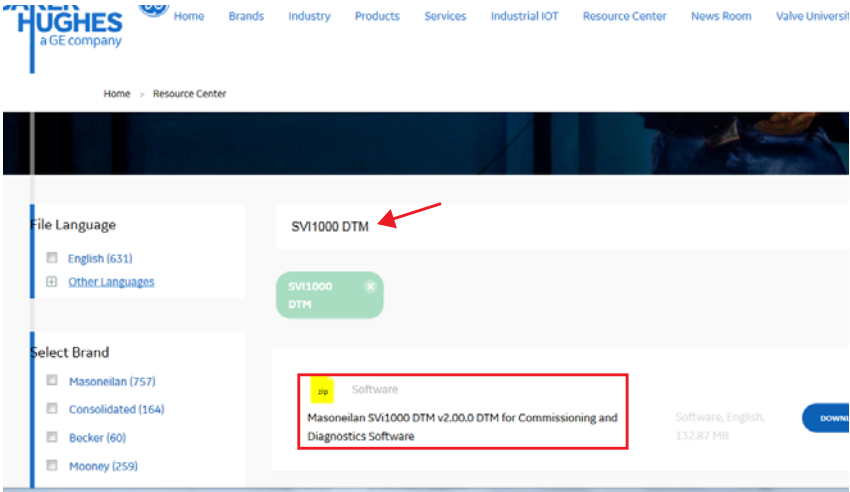

Figure 28 Download Center: Search for SVi1000 DTM
1. Go to the *Resource Library* (<https://valves.bhge.com/resource-center>) and enter *SVI1000 DTM* in the search field (red arrow in Figure 28).
The results appear (red box in Figure 28).